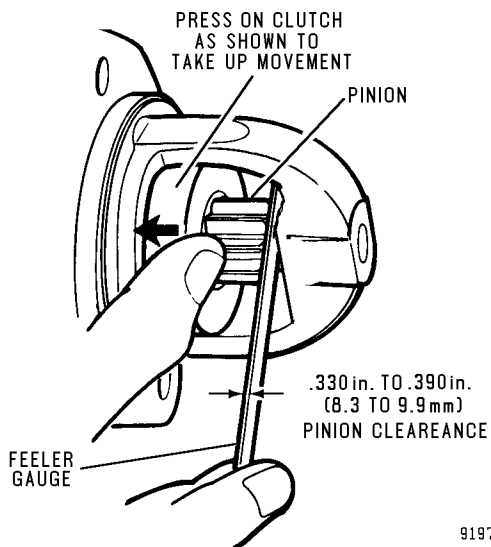

FIGURE 2-8. CHECKING PINION CLEARANCE
4. The distance between the drive pinion and housing should be between 0.330 in. to 0.390 in. (8.3 mm to 9.9 mm) as shown in Figure 2-8.